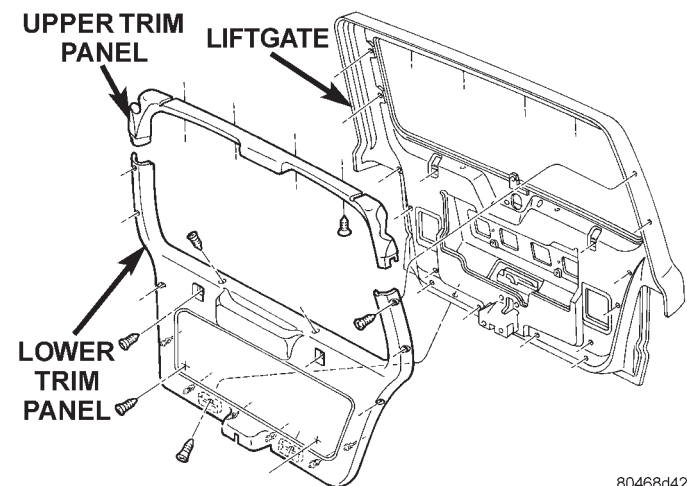

Fig. 3 Liftgate Trim Panel Remove/Install
(1) Disconnect and isolate the battery negative cable.
(2) Open the liftgate.
(3) Remove the screws that secure the liftgate lower trim panel to the liftgate inner panel (Fig. 3).